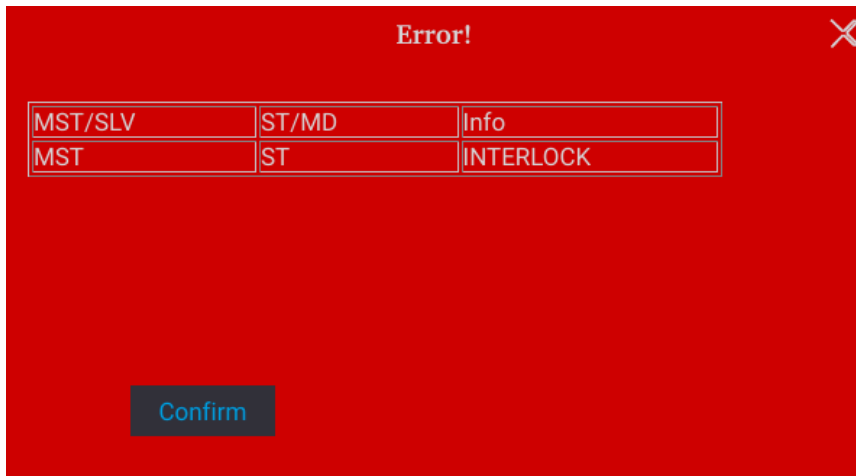

Figure 3-32
- (1) Set to disable: It closes this function.
- (2) Set to enable: It enables the Safety Int. Lock. The DC power supply's ON/OFF is still controlled by "⏻". When the PIN 3 of ANALOG INTERFACE is at a low level, it indicates the power supply is outputting normally and when it is at a high level, it closes the power supply output temporarily (the "⏻" is still on) and issues a protection signal. Once Pin 3 of ANALOG INTERFACE is returned to a low level, the DC power supply will continue to output normally.
- When protection occurs to Safety Interlock the main page will show this protection message as Figure 3-32 shows.